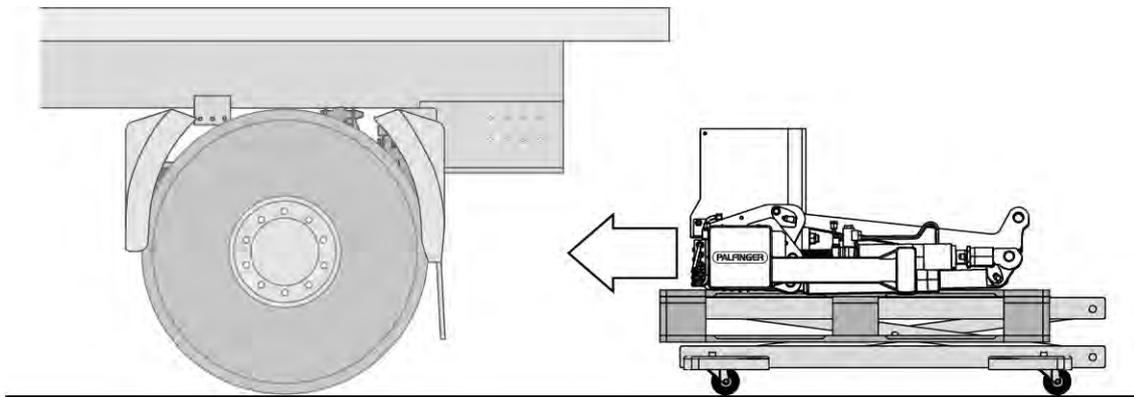

Figure 13: Positioning the lifting mechanism
- ▶ Carefully position the lifting mechanism under the vehicle (see Figure 13).